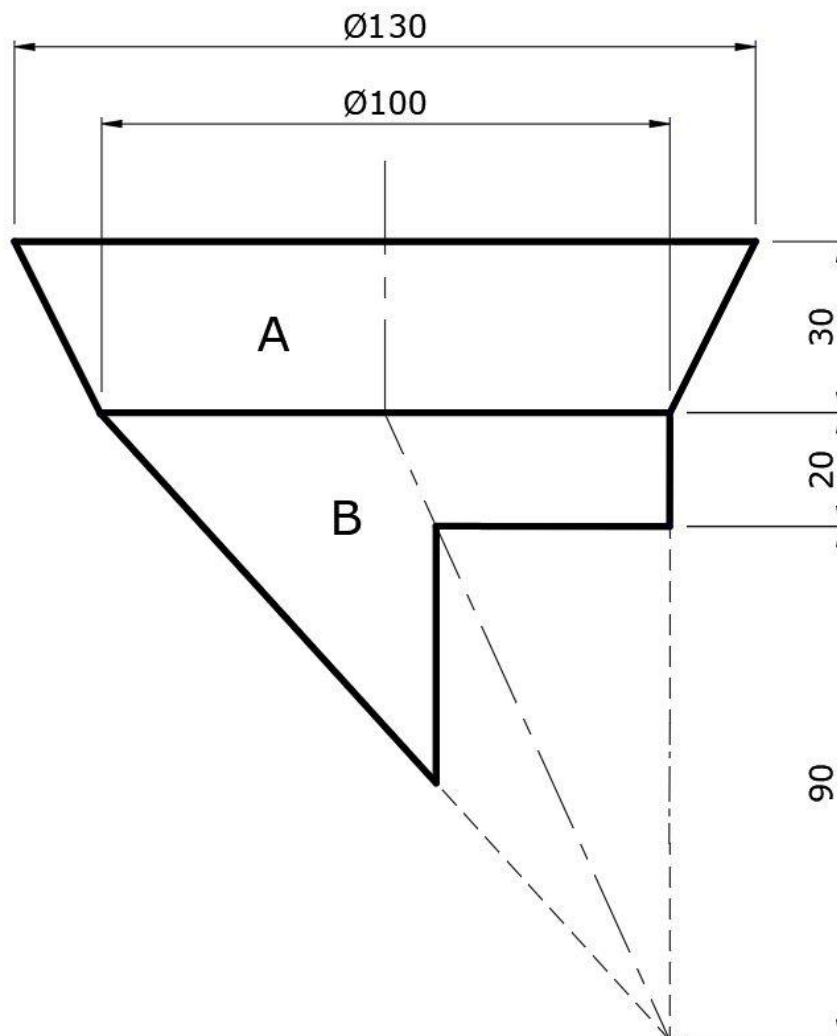

Figure 2b
The funnel, shown in detail in Figure 2b, consists of a truncated right cone 'A' and a truncated oblique cone 'B'.
- Copy Figure 2b. (1)
- Project the plan. (1)
- Draw the necessary generators on both cones. (1)
- Construct a half surface development of cone 'A'. (2)
- Construct the true lengths of cone 'B'. (2)
- Construct a half surface development of cone 'B'. (6)